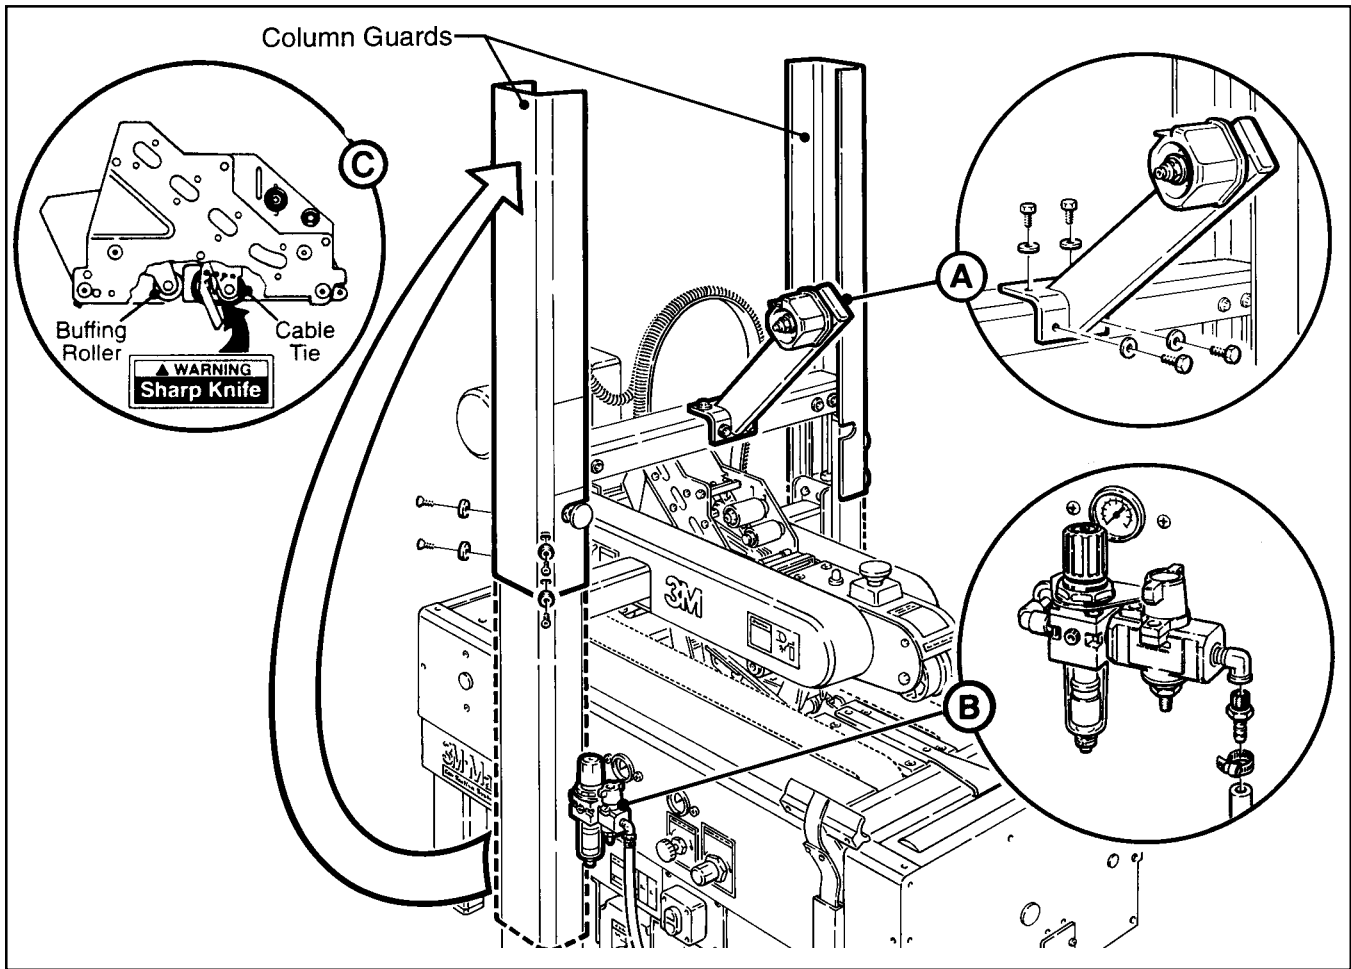

Figure 2-1 – 700r3 Frame Set-Up
4. The column guards, shown in Figure 2-1 have been installed upside down for shipping. They must be repositioned for safe operation of the machine. Remove and retain the screws and washers holding the guards on the columns. Rotate the guards 180° and install back on the columns as shown. Replace existing screws and washers to secure the guards in place.